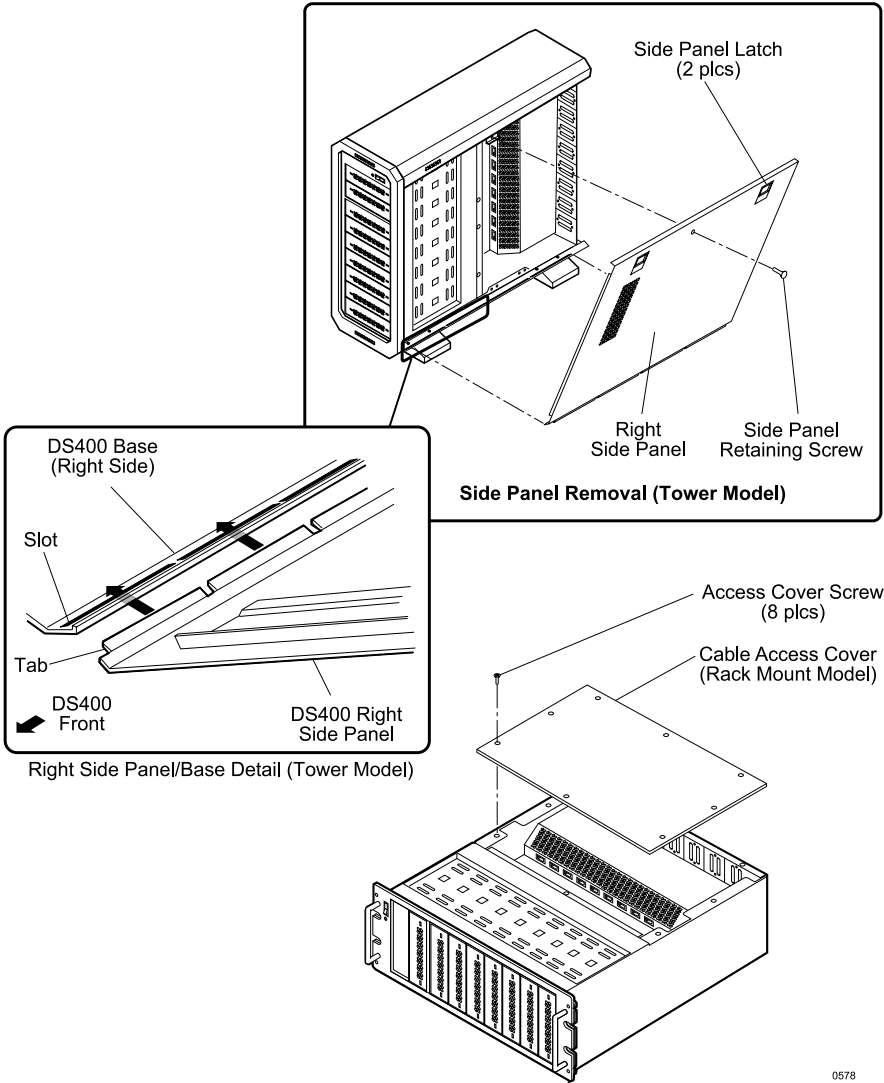

Figure 5: DS400 Cable Access Cover Removal
3. Remove the cable access cover (rack mount model only, see Figure 5).
4. Remove the side panels (tower model only, see Figure 5).
- A. Remove the side panel retaining screw as shown in Figure 5.
- B. Disengage the two (2) side panel latches on the side of the DS400.